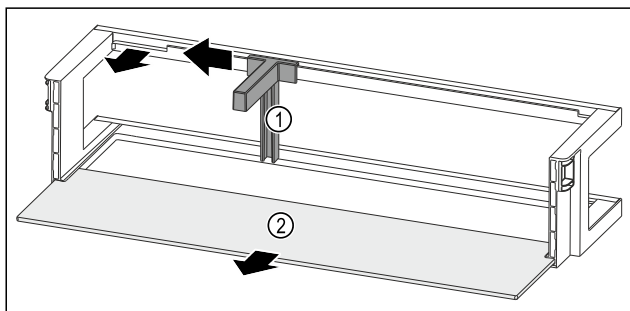

Fig. 173 Door rack with bottle holder and shelf
- Slide the bottle holder *Fig. 173 (1)* to the side as far as the recess.
- Remove the bottle holder *Fig. 173 (1)*.
- Remove the shelf *Fig. 173 (2)*.